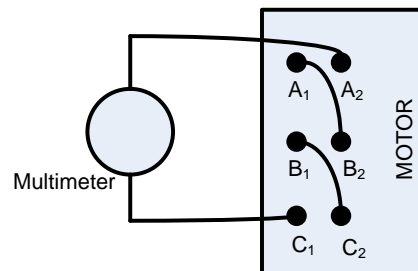

Fig. 3: Wiring diagram for R_a measurement
- Connect the armature winding as shown in Fig. 3 and use the Multimeter to measure the resistance between the armature terminals A2 and C1.